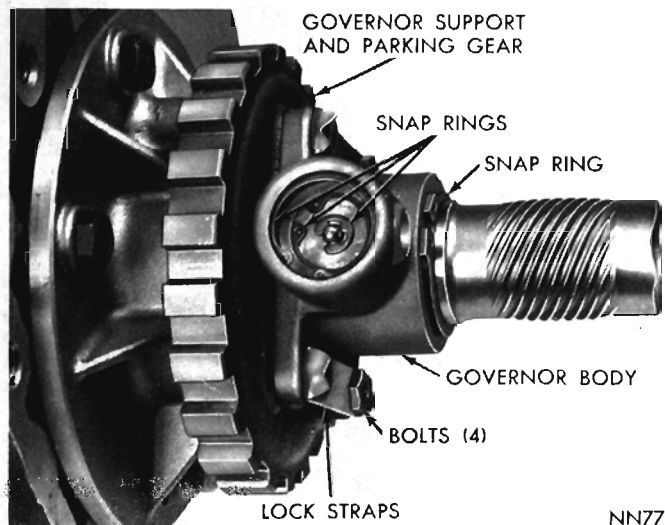

Fig. 33—Governor Shaft and Weight Snap Rings
governor valve shaft (Fig. 33). Slide valve and shaft assembly out of governor body.
(1) Assemble governor body to the support (if disassembled) and tighten bolts finger tight. Make sure oil passage of governor body aligns with passage in the support.
(2) Position support and governor assembly on the output shaft. Align assembly so valve shaft hole in governor body aligns with hole in the output shaft, then slide assembly into place. Install snap ring behind governor body (Fig. 33). Tighten the body to support bolts to 100 inch-pounds. Bend ends of lock straps over bolt heads.
(3) Assemble governor weights and spring, and secure with snap ring inside of large governor weight. Place weight assembly in governor body and install snap ring.
(4) Place governor valve on the valve shaft, insert assembly into the body and through governor weights.